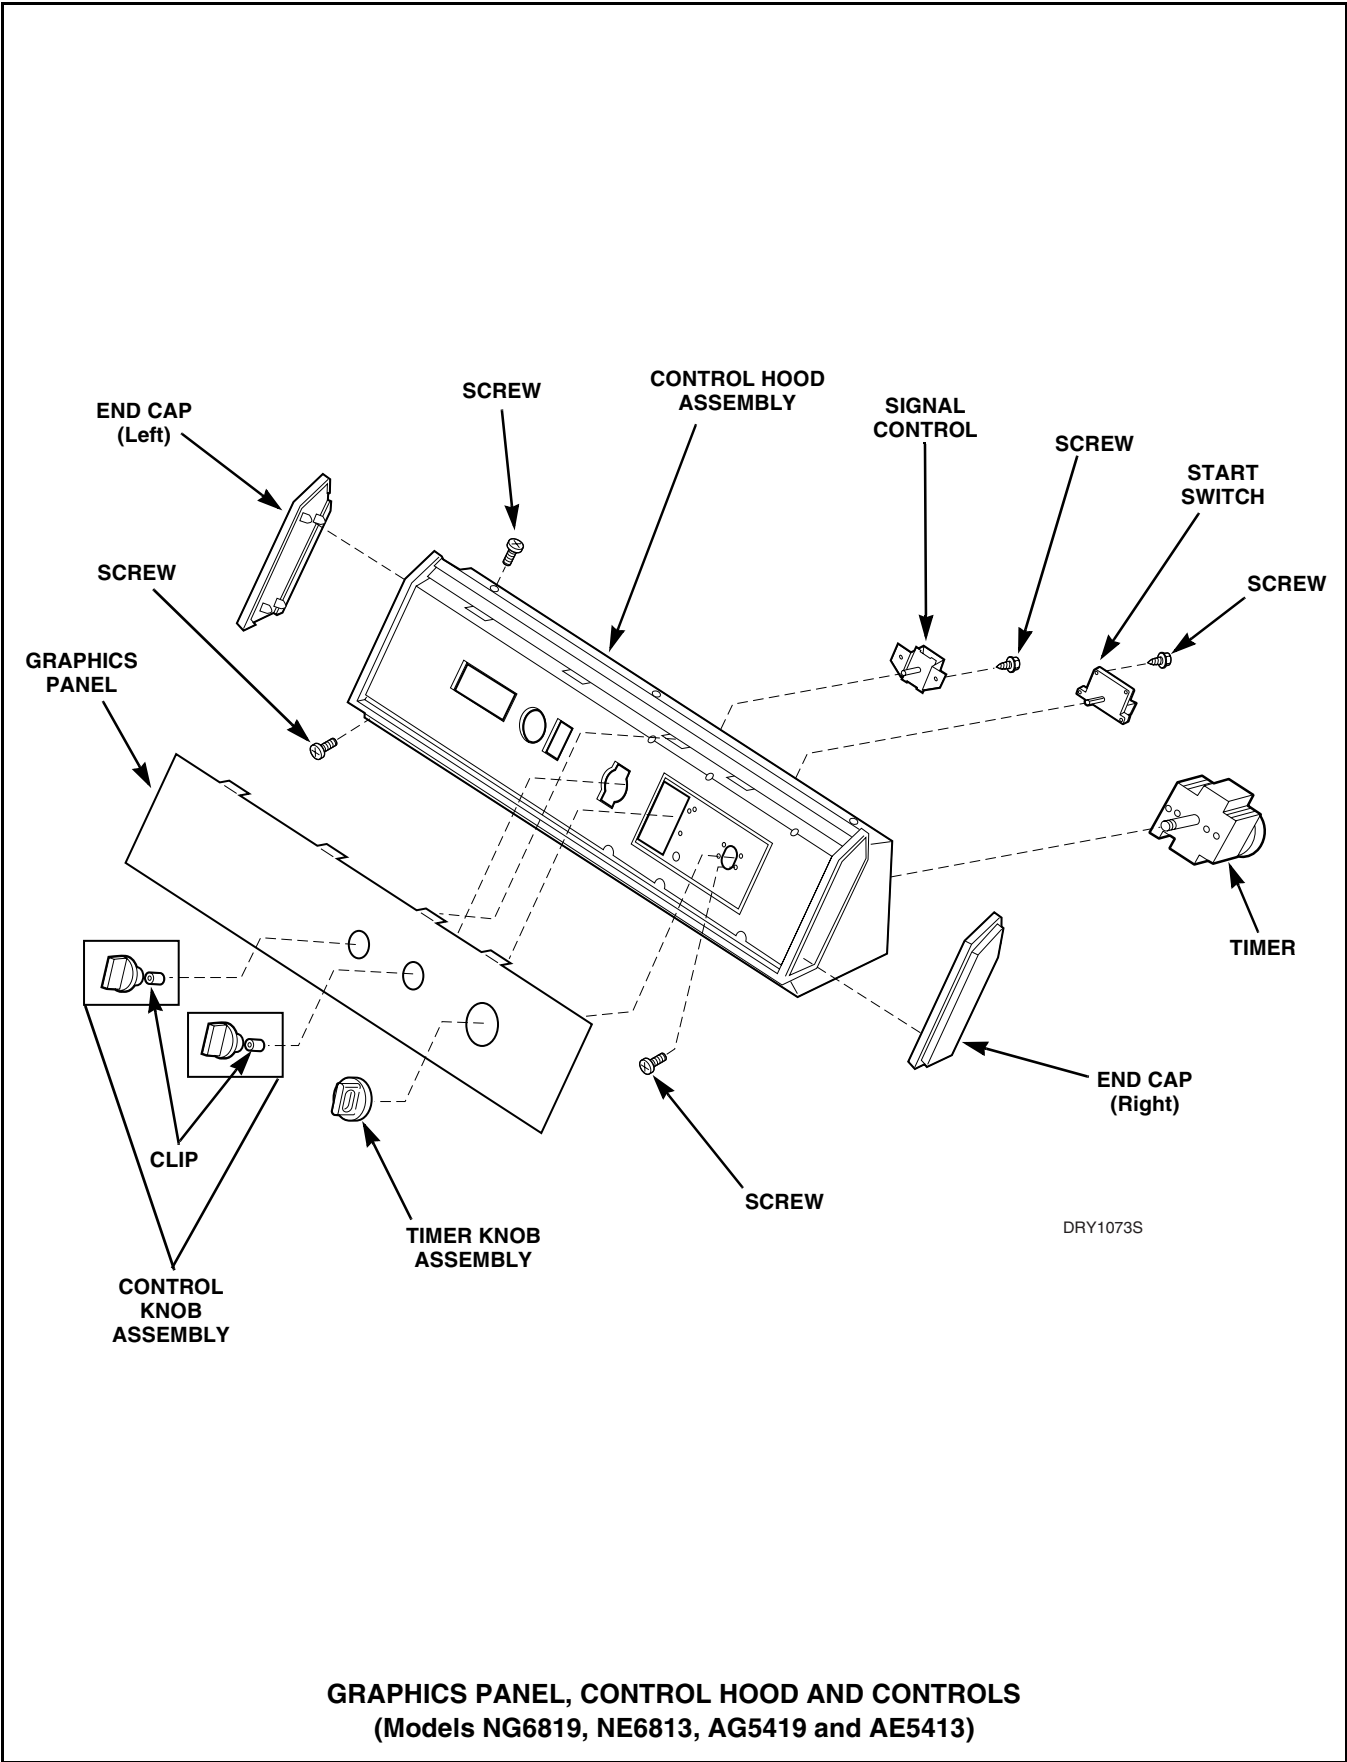

Figure 7
Refer to *Figures 7, 8* or *9* for switch removal.
1. Remove six screws (three on top and three at lower front) holding the hood assembly to the control hood rear panel and to the cabinet top. Refer to *Figures 7, 8* or *9*.